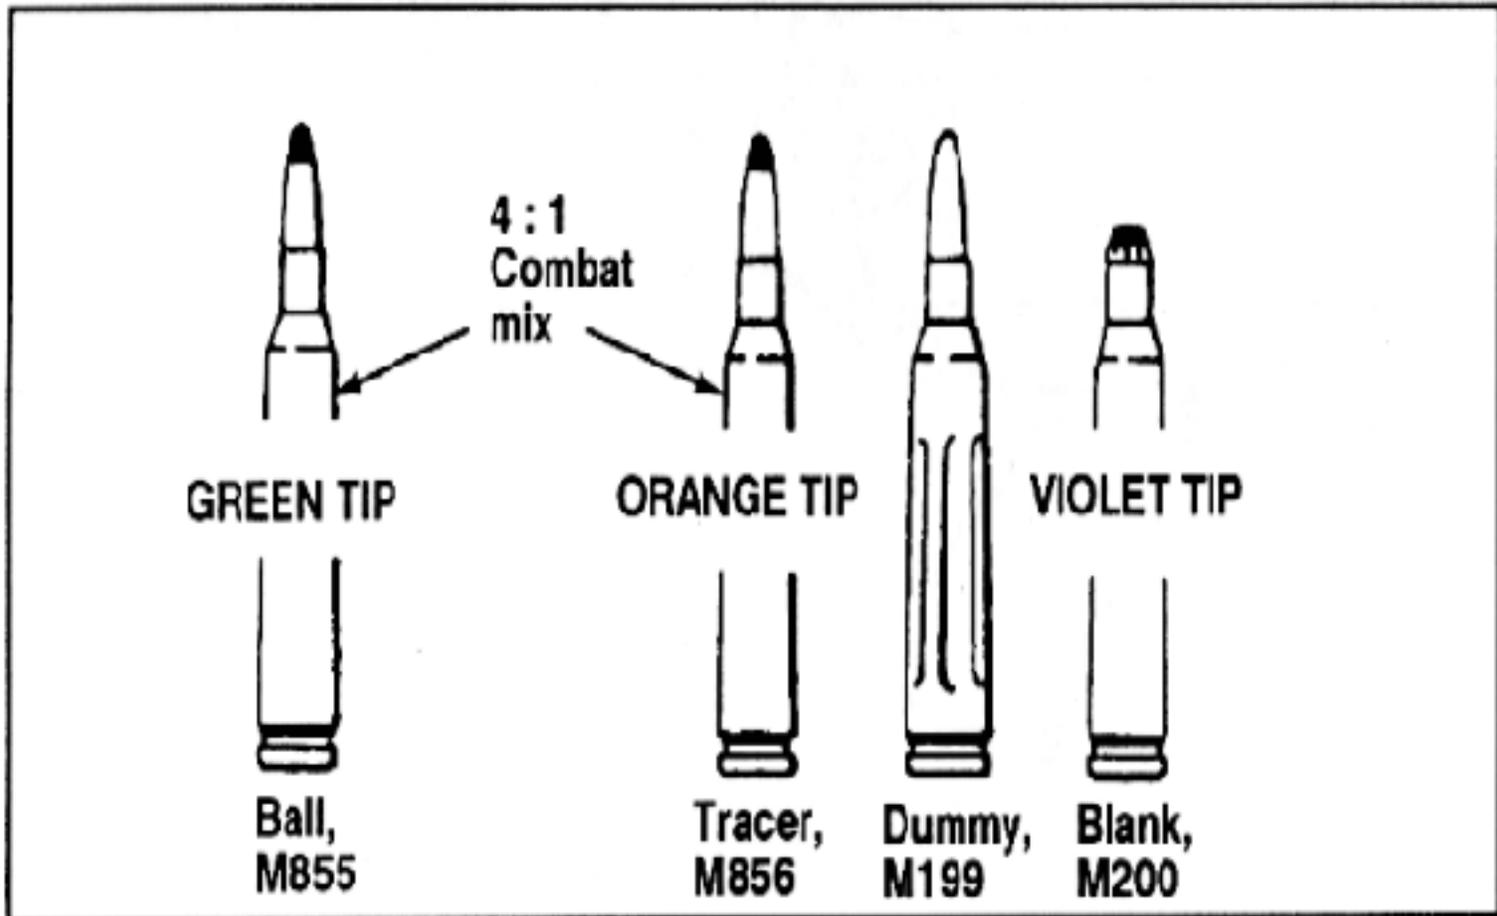

Figure 1-5. Cartridges for the M249.
Figure 1-5. Cartridges for the M249.
- a. **Type and Characteristics.** The specific type ammunition (Figure 1-5) and its characteristics are as follows.